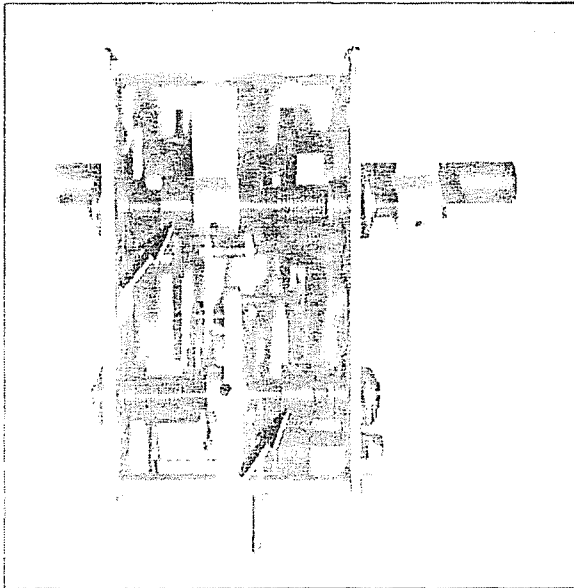

Figure 54
3. Lubricate trip latch surfaces and gears using molybdenum disulfide grease. See Figures 54 and 55